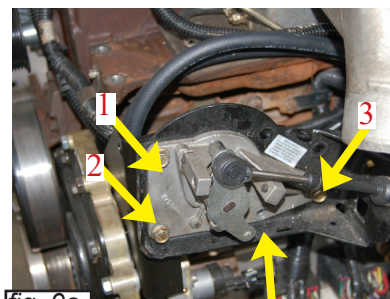

fig. 9a
- 9)\* Secure **transmission kickdown** by bolting the **#12a transmission kickdown bracket** with the **#13b transmission kickdown support bolt** (fig. 9a), and secure the **#13a transmission kickdown support** as shown (fig. 9b). Use the longer **#13b bolt** on **Arrow 3**, and secure the other end of **#13a** with the longer bolt from **#12b** in step 8 (**Arrow 4**).